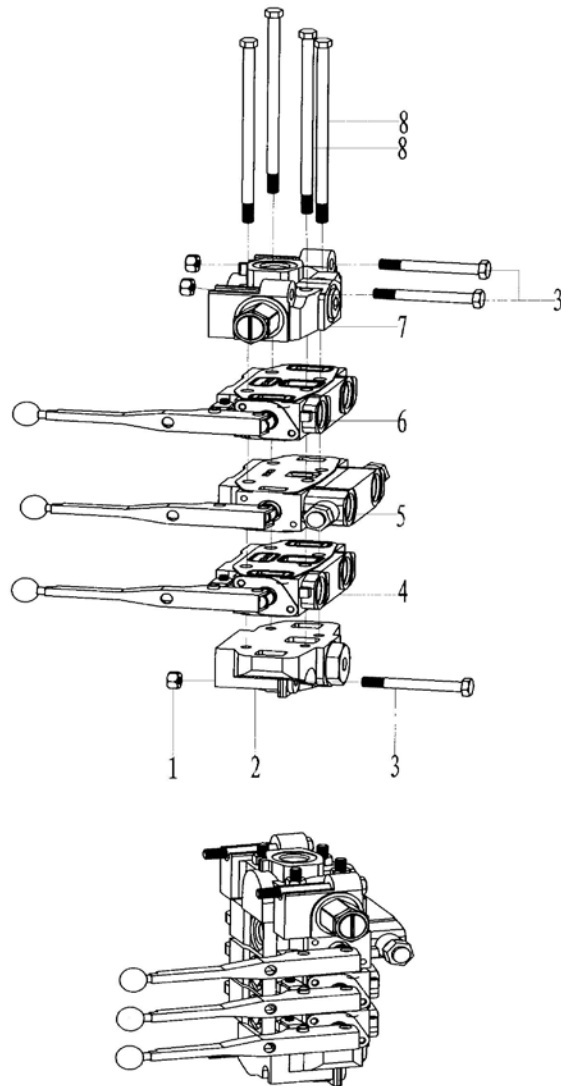

Fig. 13
- Composite valve (**Fig 13, Table 10**)